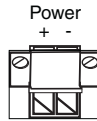

Figure 8. Terminal block power connection
- The power connection to the LB532A-L and LB532A-R is a terminal block (see Figure 8)